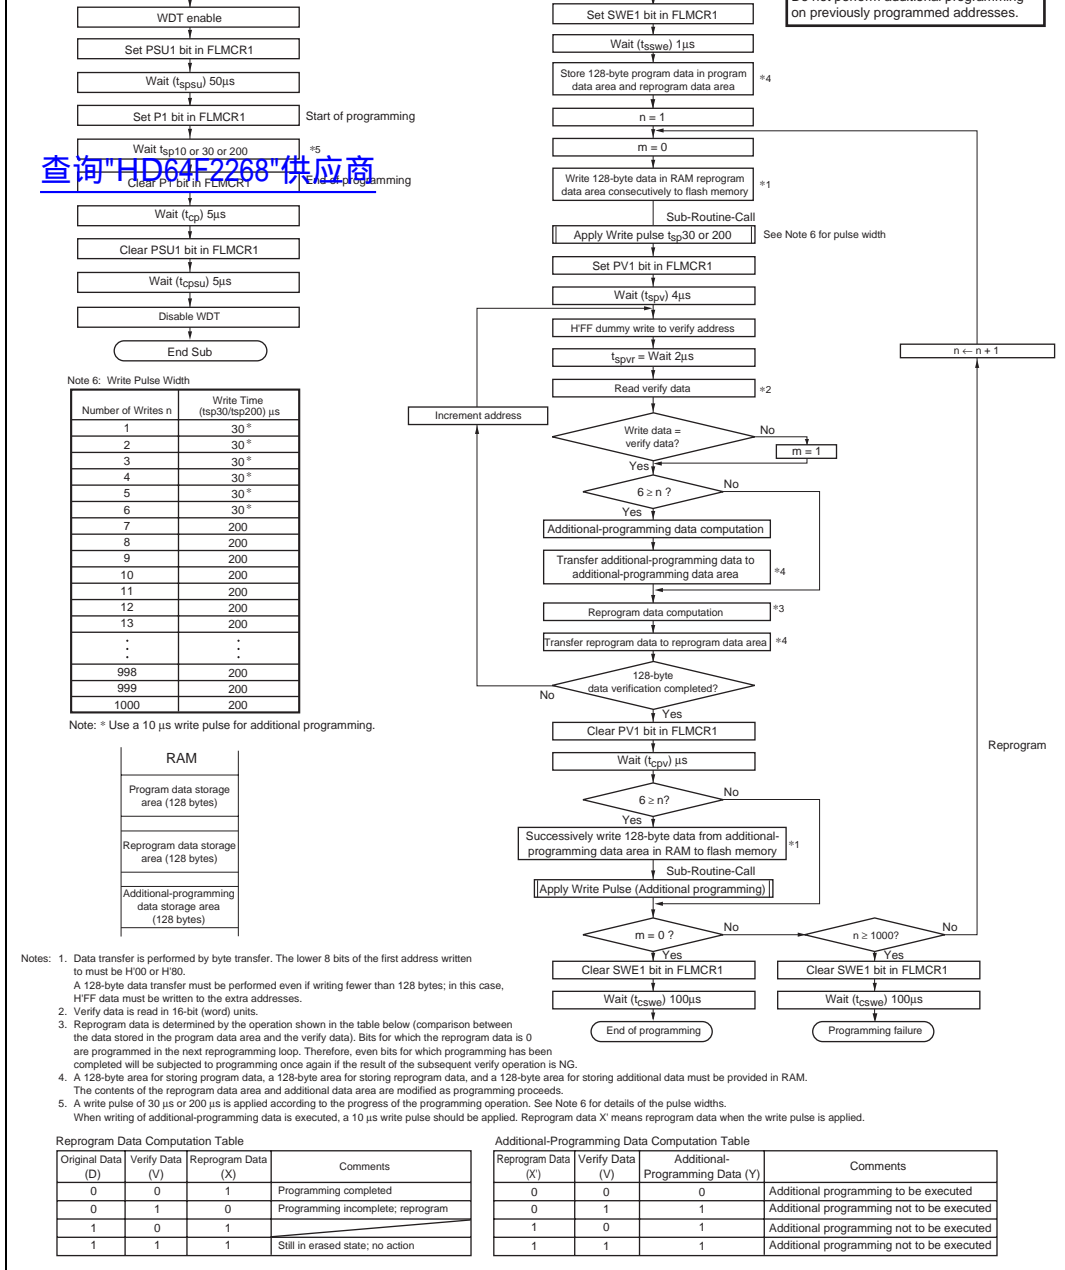

Figure 20.10 Program/Program-Verify Flowchart
When writing data or programs to the flash memory, the program/program-verify flowchart shown in figure 20.10 should be followed. Performing programming operations according to this flowchart will enable data or programs to be written to the flash memory without subjecting the chip to voltage stress or sacrificing program data reliability.
3. Prepare the following data storage areas in RAM: A 128-byte programming data area, a 128-byte reprogramming data area, and a 128-byte additional-programming data area. Perform reprogramming data computation and additional programming data computation according to figure 20.10.
5. The time during which the P1 bit is set to 1 is the programming time. Figure 20.10 shows the allowable programming times.
8. The maximum number of repetitions of the program/program-verify sequence of the same bit is (N).